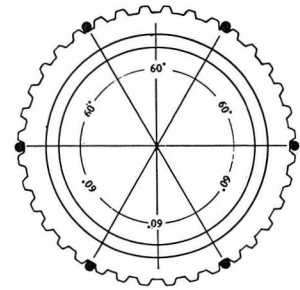

Fig. K3-17A — Return rubbers should be placed between friction discs at 60 degree intervals around clutch hub.
The gap between lugs on friction discs (18) and clutch drum (2) should be 0.002-0.012 inch. Renew the clutch drum and/or discs if clearance is excessive or drum is grooved. Return rubbers (L&S) are placed between friction discs to aid in disengaging the clutch. There are six long rubbers (L) which are installed next to the clutch hub. All A1 models use 24 short rubbers (S) and A7 models use 30 short rubbers (S). Refer to Fig. K3-17A for correct placement of return rubbers.